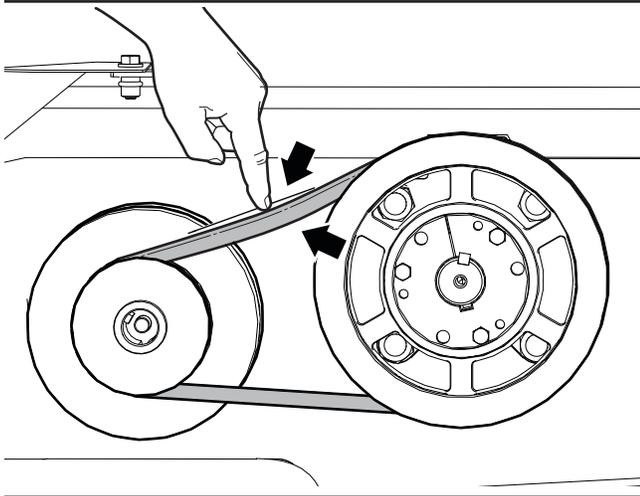

Figure 39—Check the drive belt tension
1. Press on the top centre of the rotor drive belt and measure the distance it moves. See *Figure 39 on page 59*.